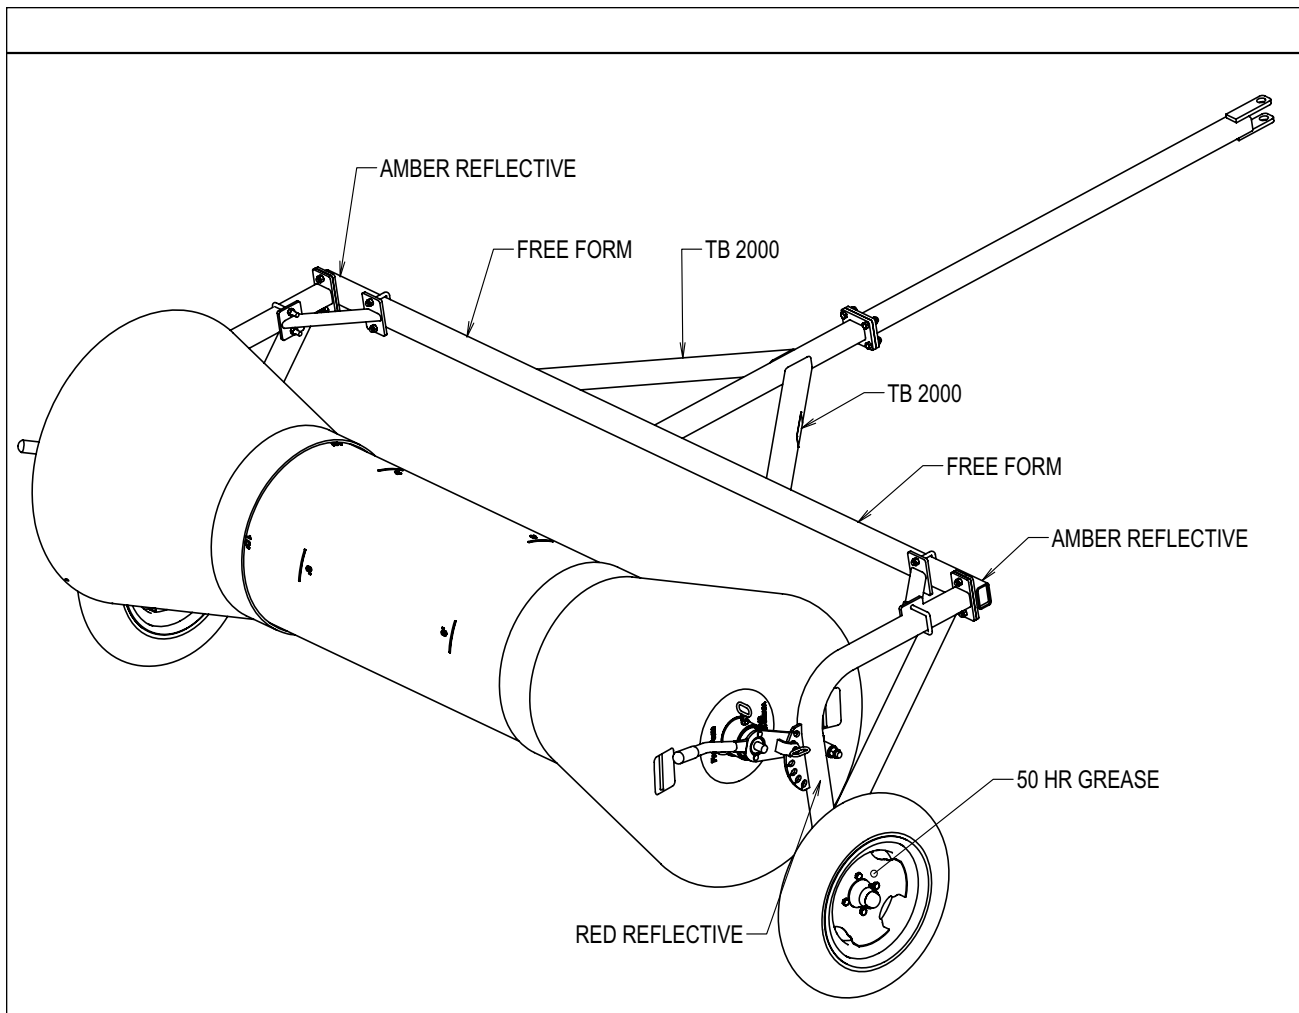

Figure 2.7 - Final Assembly
Refer to *Figures 2.7 & 2.8*.
3. Apply decals supplied as shown in *Figure 2.7*.